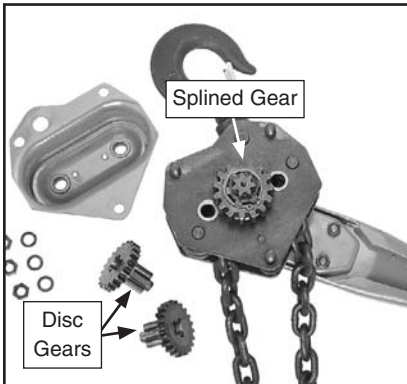

Figure 2. Gears exposed.
2. Remove the three lock nuts that secure the gear cover, then remove the cover (see **Figure 2**).